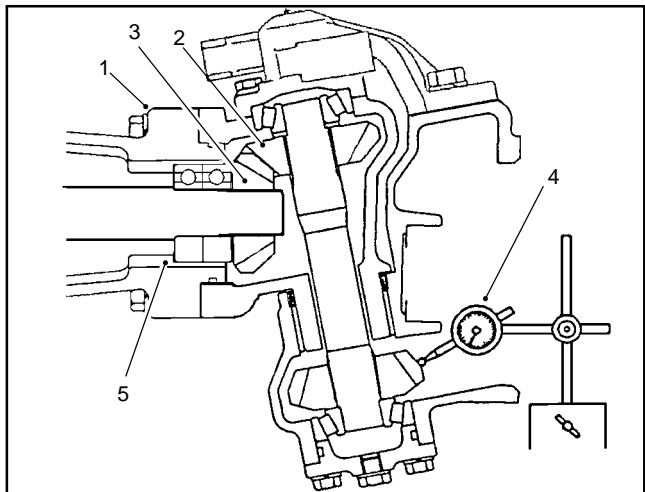

Figure 23
7. Temporarily install the bevel gear case/axle case assembly on the axle support. Position a dial indicator at the teeth center. Prevent the axle from turning and measure the upper bevel gear to differential shaft gear backlash (Fig. 23).